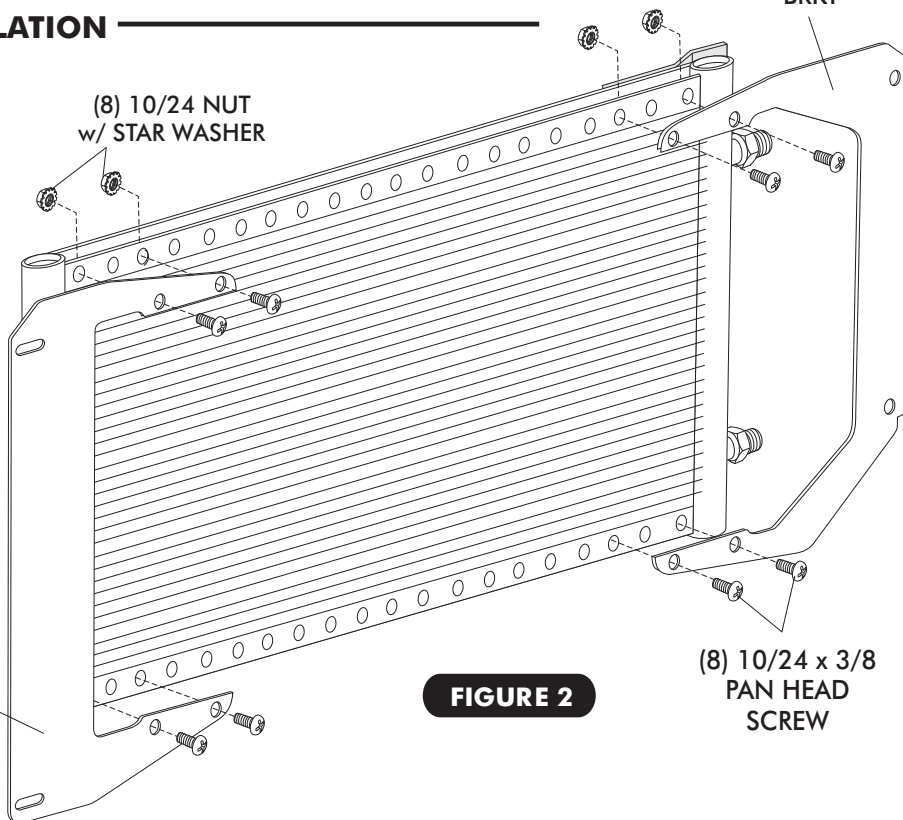

FIGURE 2
- INSTALL CONDENSER MOUNTING BRACKET ON CONDENSER USING (8) 10/24 x 3/8 PAN HEAD SCREWS AND (8) 10/24 NUTS WITH STAR WASHERS. SEE FIGURE 2 BELOW.